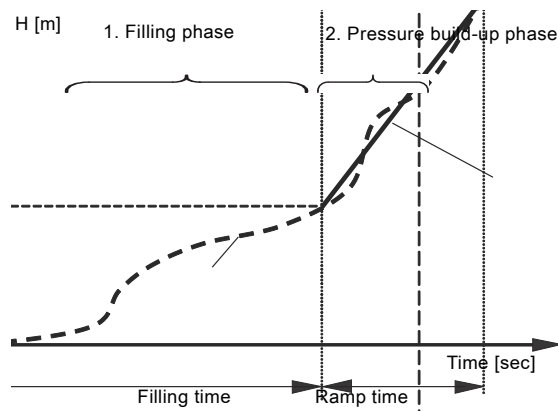

Fig. 35 Filling and pressure build-up phases
2. When the system's pressure sensor detects that the pipe has been filled with water, the pressure is increased until it reaches the setpoint. See fig. 35.